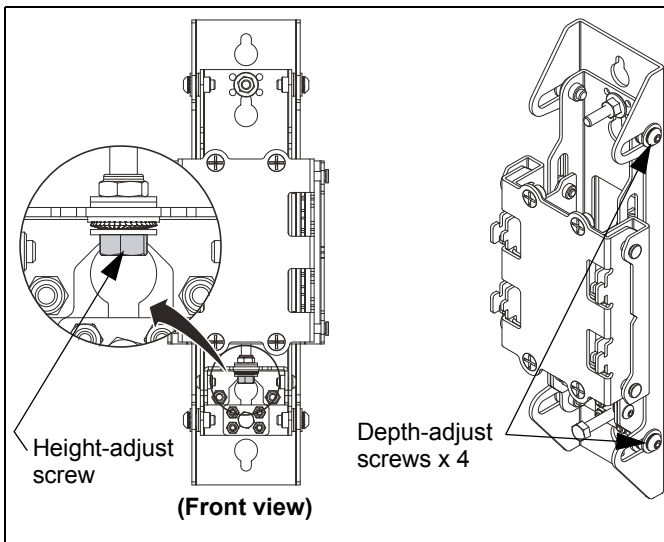

Figure 14
- Adjust the height of the mounting rail via the wall upright, as necessary, to level the mounting rail on the wall. (See Figure 14)